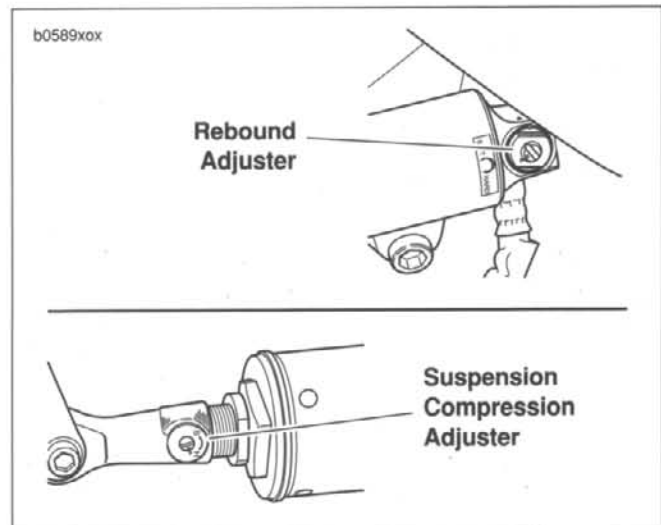

Figure 1-53. Rear Shock
- See Figure 1-53. Factory setting-maximum damping minus 0.5 turn.
- See Figure 1-53. Factory setting-maximum damping minus 1.0 turn.